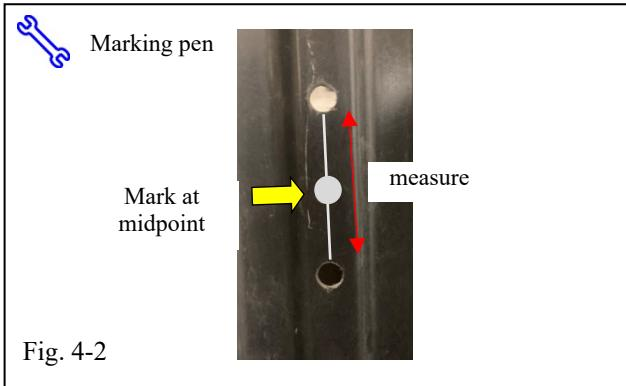

Fig. 4-2
- If no template is available use tire carrier as the template by marking each hole position. Once holes are marked and drilled out measure. Measure from hole edge to hole edge and mark center position between both holes with a center punch. (Fig. 4-2)